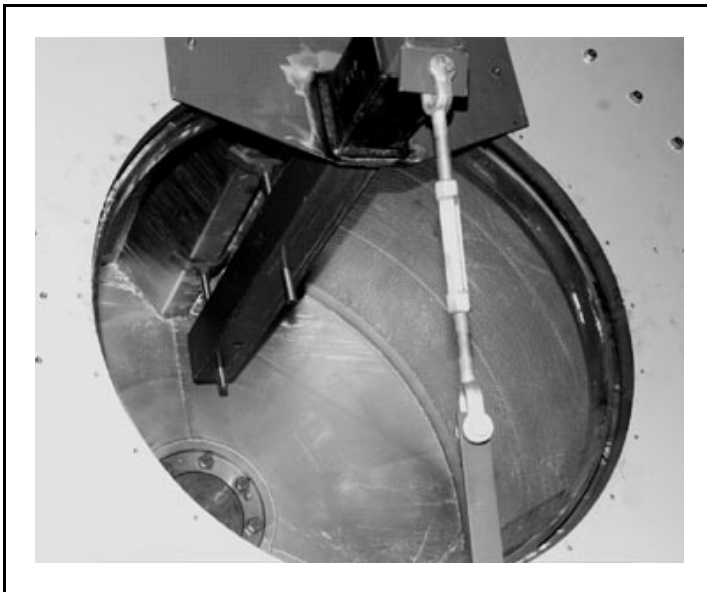

FIGURE 3 (MSSMA430AE)
2. Install the cylinder fixture and tighten the lower turnbuckle. Position the Y bolts under rib one and tighten until bolts contact rib (FIGURE 3). Drive wedges between the cylinder and the shell front at eight places then clamp the cylinder to the shell front as shown in FIGURE 11.